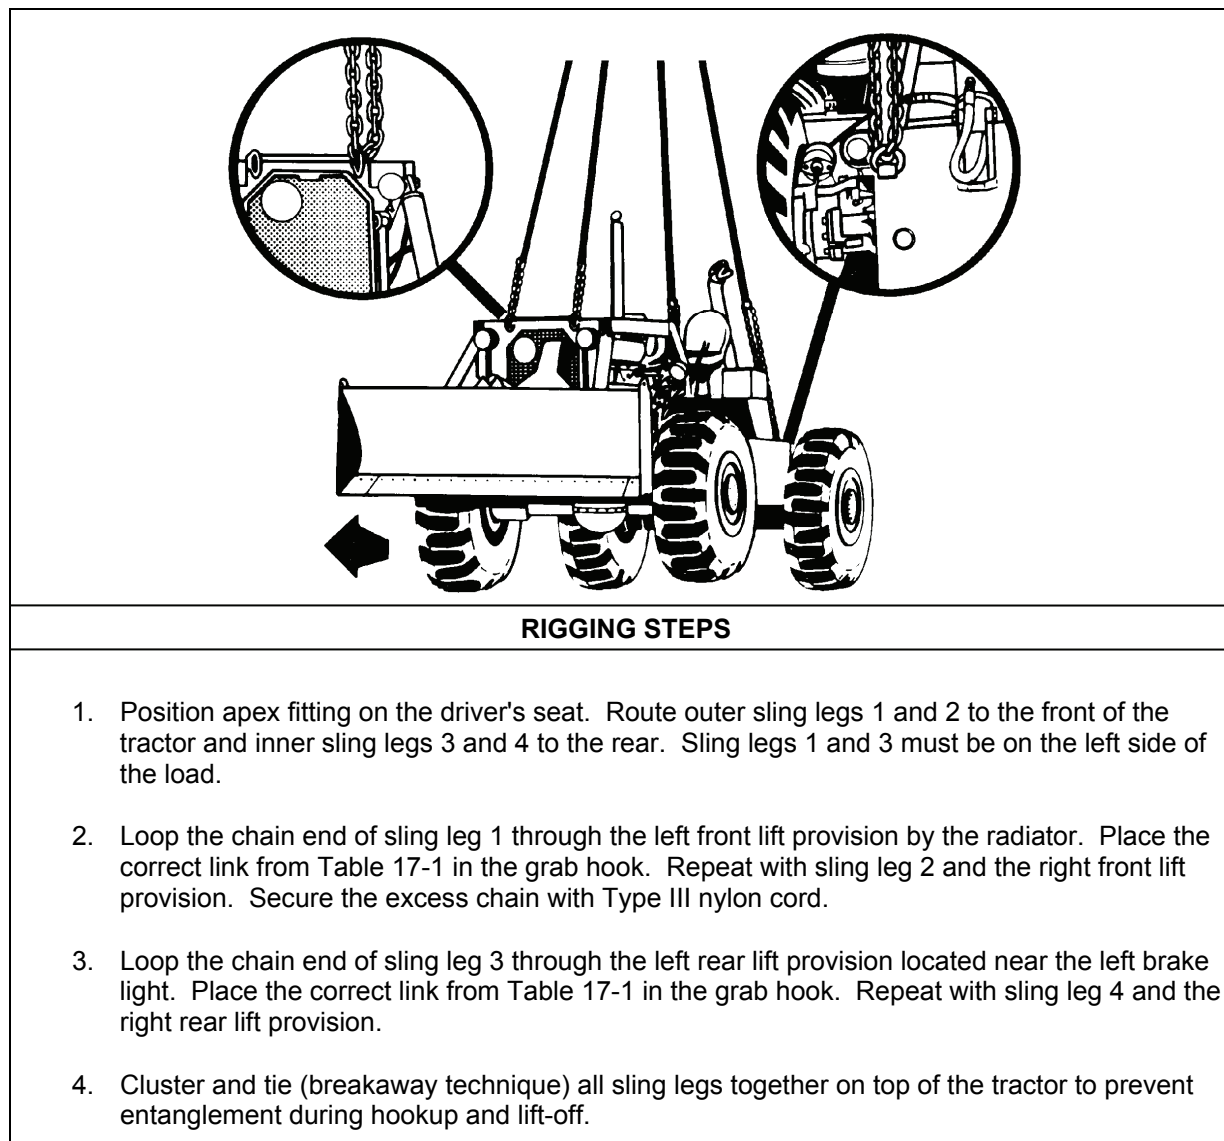

Figure 17-1. MRS-100 Wheeled Industrial Tractor
- **Rigging.** Rig the load according to the steps in Figure 17-1.